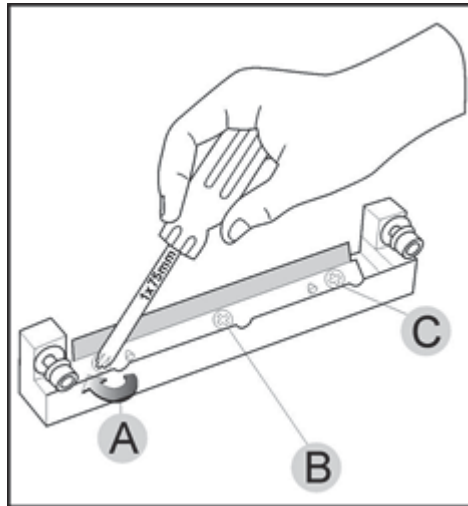

Figure 4-54 Tightening the roller scraper screws
- Tighten the screws in the order shown in Figure 4-54.